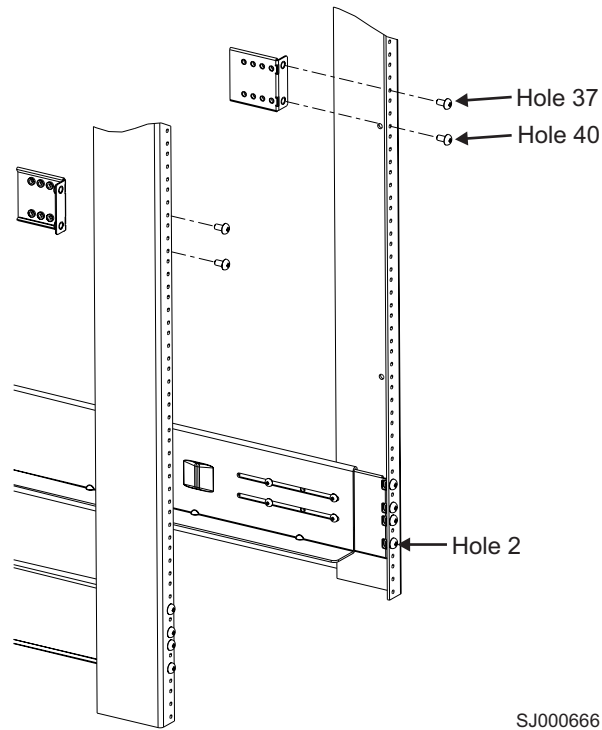

Figure 10. Attaching the L-shaped upper mount brackets to the rails
7. Attach the two L-shaped upper mount brackets (items 3b and 4b) to the cabinet rails. See Figure 10 for orientation. Use two of the 1/4–20 x 1/2 in. Phillips panhead screws with lock washers per bracket. Tighten the screws.